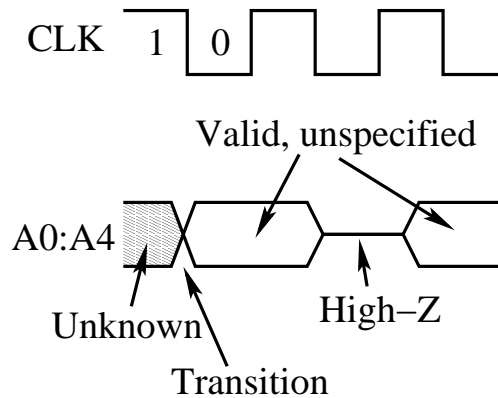

Figure 1: Example timing diagram
1. Draw and hand in a timing diagram describing the behavior of system during the memory writes. You need not (and can not) show the state of each line on the address and data busses. However, you can indicate whether the values are stable or in transition. Figure 1 provides an example timing diagram.